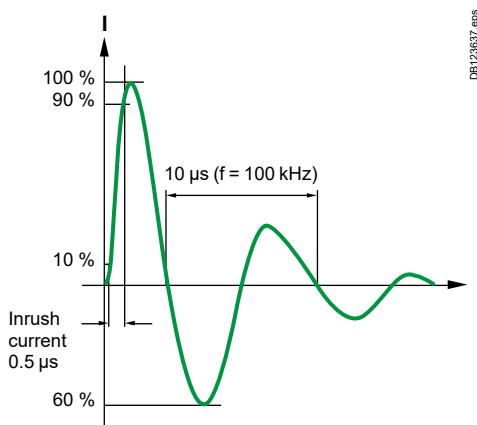

Fig. 3: normalized current waveform 0.5 μs/100 kHz
- switching on capacitors creates a transient inrush current similar to that shown in waveform (Fig. 3)